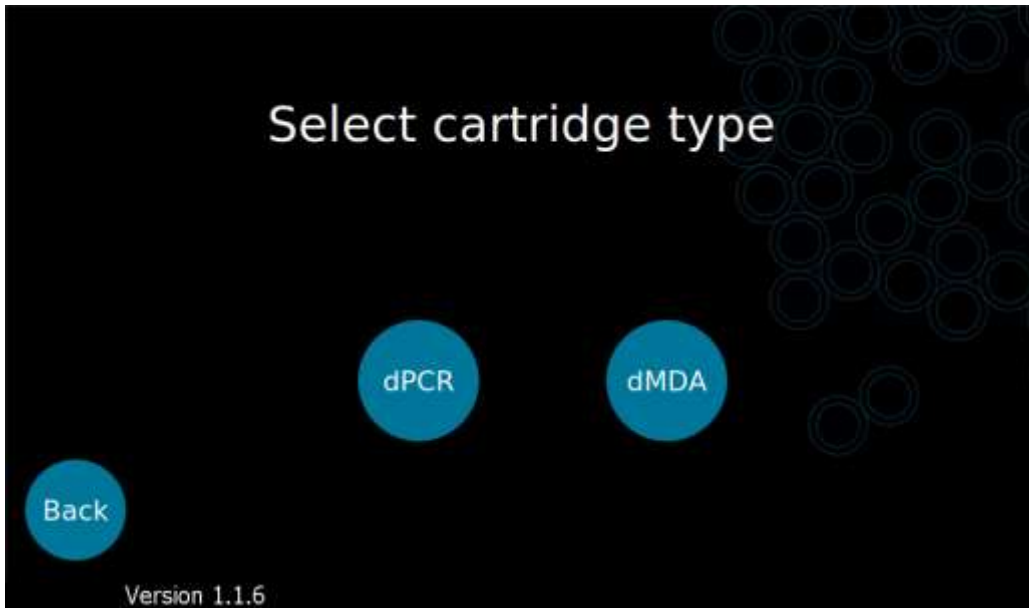

Fig. 5.9. The Xdrop instrument “Select cartridge type” screen. Select dMDA cartridge.
5. The droplet generator instrument can operate with either dPCR or dMDA cartridges. Use the dMDA cartridge with the "dMDA" option on the touchscreen (Fig. 5.9).